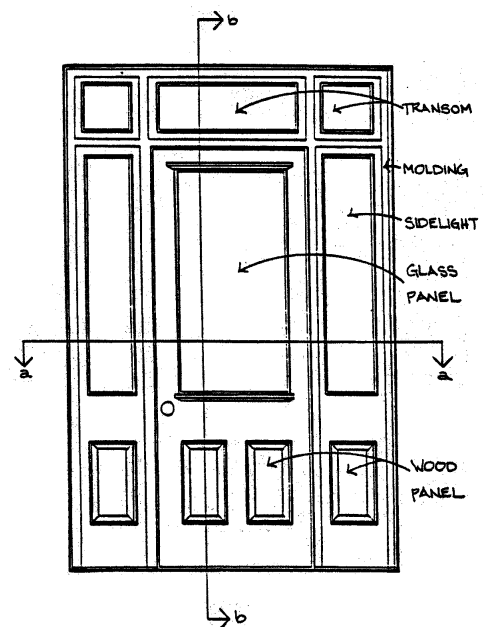

Figure 1
2. Same scale full horizontal (a) and vertical (b) sections of existing doorways (Figure 1).